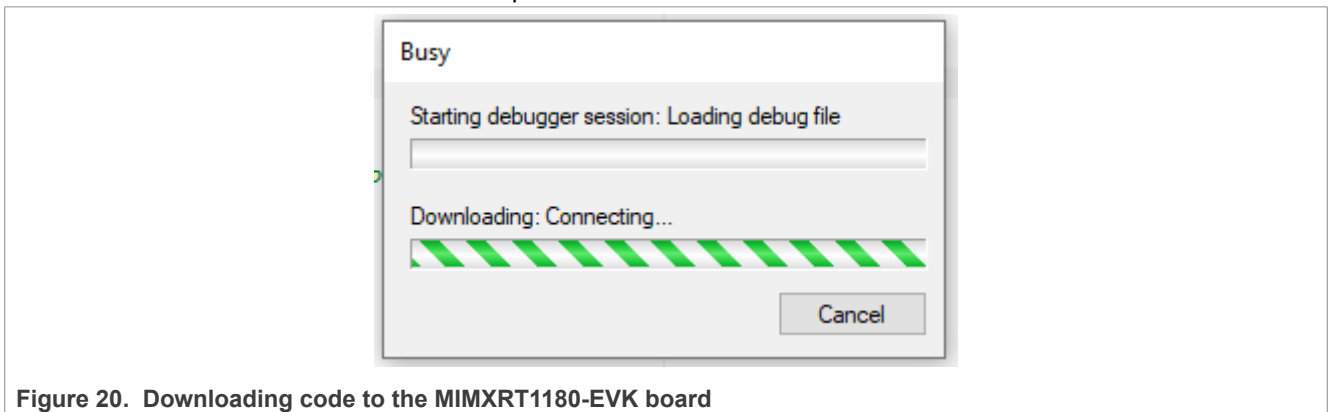

Figure 20. Downloading code to the MIMXRT1180-EVK board
- Build and compile the SDK project and download it to the MIMXRT1180-EVK board, as shown in Figure 20 . Connect MIMXRT1180-EVK EtherCAT port0 with EtherCAT master.